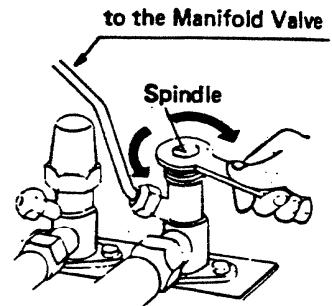

Fig. 34
- e) Remove the cap from the wide tube service valve and turn the spindle gradually until it is back seated. Fig. 34